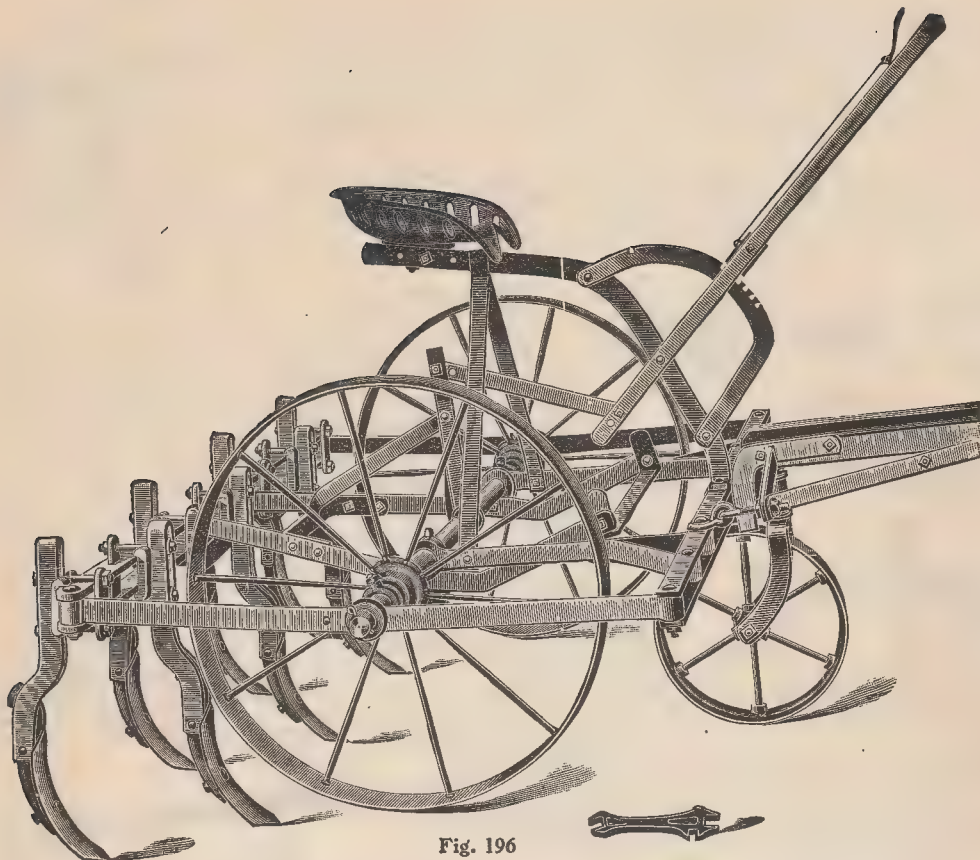

Fig. 196
- No. 110. Orchard and Variety Cultivator, as shown in Fig. 196 . . . . .